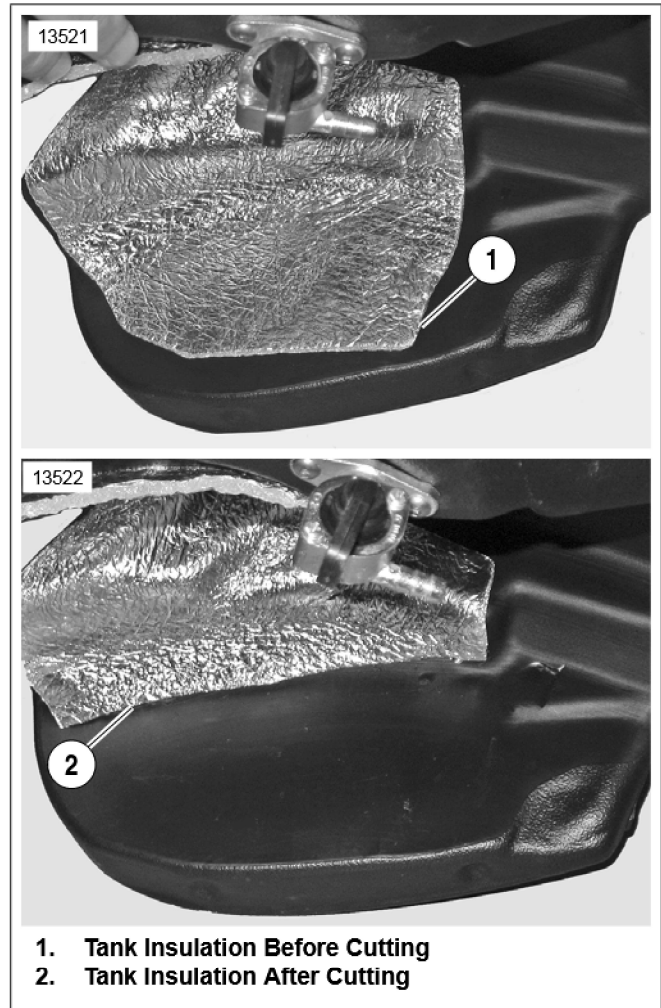

Figure 4. Fuel Tank Insulation
- See Figure 4. Trim existing tank insulation to provide proper clearance to **new** bracket.